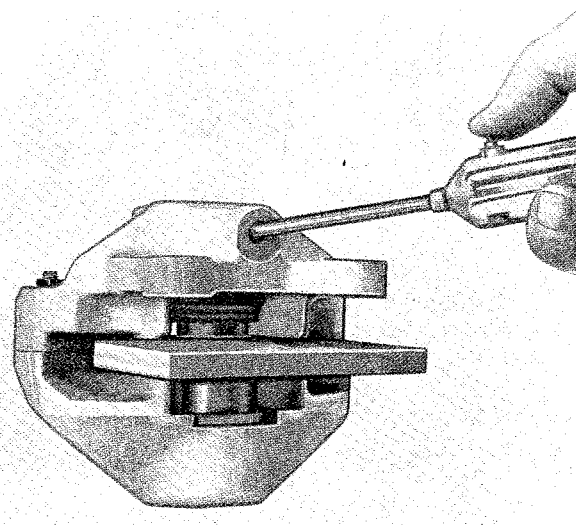

Fig. 5-27. Removing piston
2. Remove retaining rings and rubber dust covers. Place a wooden disc, see Fig. 5-3, between the pistons and press them out towards the disc with the help of an air line, see Fig. 5-27. The pistons can then be easily removed. Lever off rubber covers.